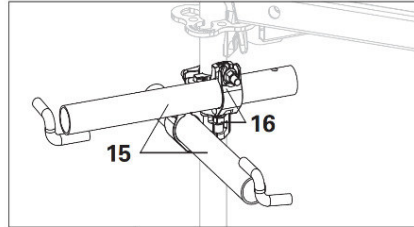

Fig.A5-1a
Fix the Standard Couplers (16) to the Corner Standards with Wall Ties UWT 45 or scaffold tube (15). (Fig.A5-1a)